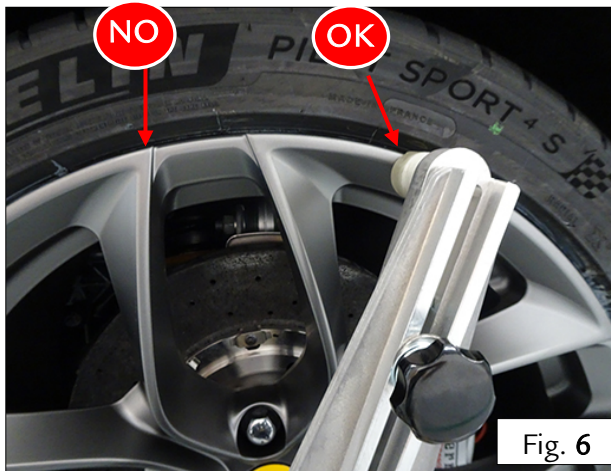
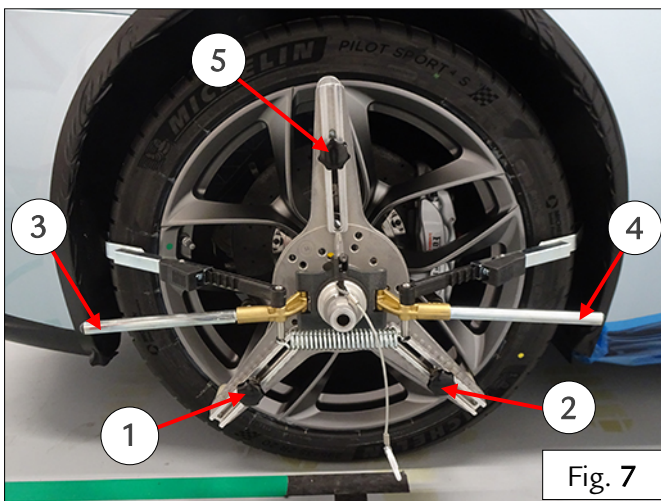

Fig. 6
Fig. 7
1. The knobs (1) and (2) are adjustable to fit the diameter of the wheel; make sure that they are set to **20”**. Fit the hooks of the mounting bracket in place on the wheel, so that they grip against the outer edge of the wheel. Ensure the spokes do not impede mounting (Fig.6). Tighten the knobs of the hooks in the order: (1) - (2) to fasten them in position. Leave the other knob (5) loosened (Fig.7).
2. Use the levers (3) and (4) to fasten the clamps into the first longitudinal groove of the tire tread. (Fig. 7).
Note: As the number and size of longitudinal grooves vary depending on the type (winter or all-season) and manufacturer of the tire, adjust the right and left hand clamps to the same length and with the tension necessary to hold the two levers in a correctly aligned position once the mounting bracket is fitted (Fig.7).
3. Now tighten the knob of the remaining hook (5) (Fig.7).